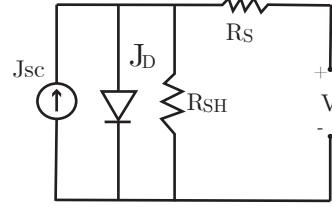

Figure 66: equivlent circuit
It should be noticed that the circuit in a solar cell is equivalent to the circuit shown in figure 66 (in the non-ideal case, in ideal case,  $R_S = R_{SH} = 0$ ), This is called an equivalent circuit . Now we will introduce some definitions.
**Definition 4.8.** As shown in figure 66, the *Current!Short circuit current density*1 is the current *drawn* when the terminals of solar cells are connected. ( $V = 0$ ) [1]
There are other two important factors that reduced the Fill factor significantly, according to figure 66, in fact the equivalence circuit has two resistor connected to it, one in series (*Series resistance*) and one in parallel to the current (*Shunt resistance*). They can reduce the fill factor of the cell in the manner shown in figure 68 and 69.